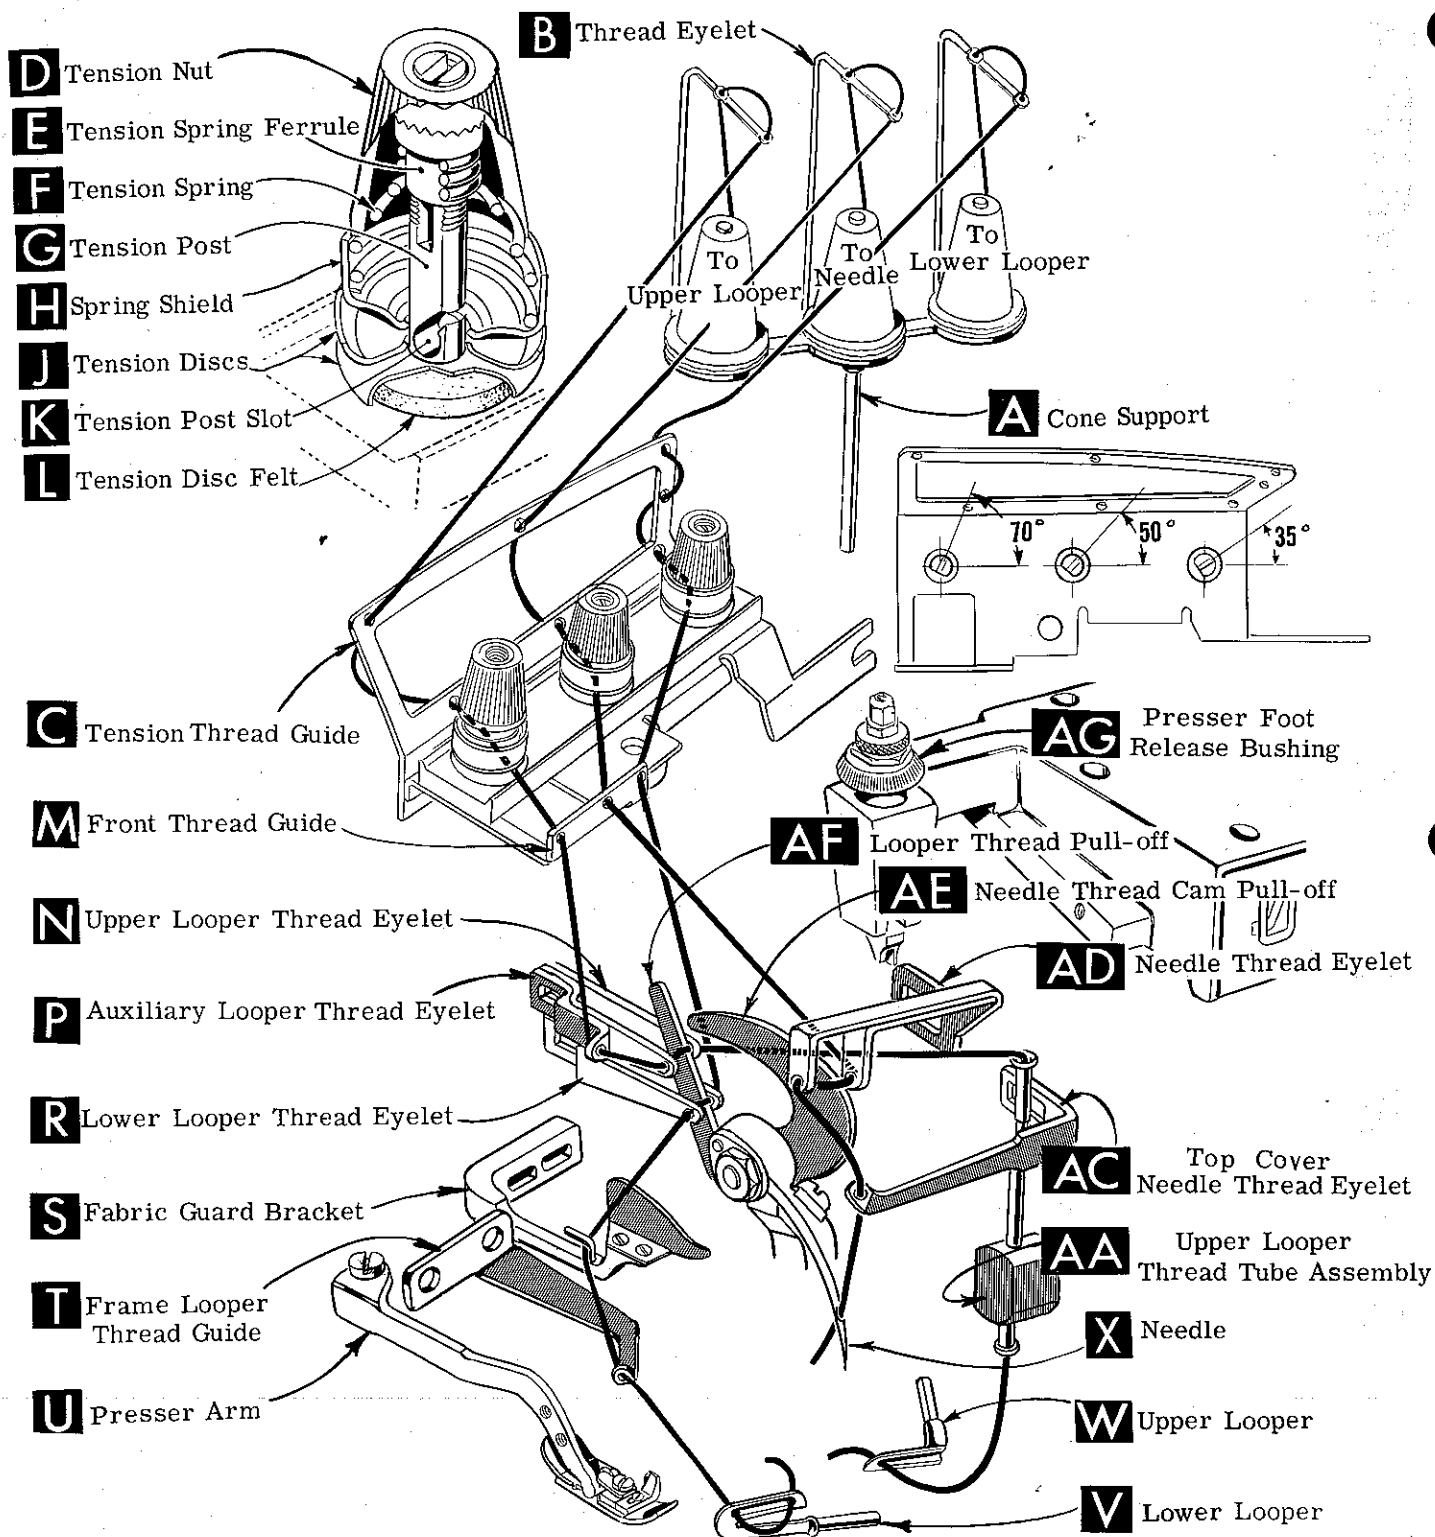

Fig. 1
Release pressure on presser foot by turning presser foot release bushing (AG, Fig. 1 or 1A) and swing presser arm (U) out of position. Turn handwheel in operating direction until needle is at its lowest point of travel. Using hexagonal socket wrench No. 21388 AU, furnished with machine, loosen needle clamp nut about 1/4 turn. Again turn handwheel until needle is at high position. Withdraw needle.
After thread comes from cones on cone support (A, Fig. 1 or 1A) it is brought up through the back hole of thread eyelet (B), then down through the front hole of thread eyelet. Next it is threaded through the upper hole of tension thread guide (C) from front to back and then through the lower hole from back to front.
Only parts involved in threading are shown in threading diagram (Fig. 1 and 1A). Parts are placed in their relative positions for clarity.
Be sure the threads, as they come from the tension thread guide (C) are between tension discs (J) and in tension post slot (K) in tension post (G). The tension posts should be positioned so the tension post slot will be at the approximate angle for the different threads as indicated in Fig. 1 and 1A.
Thread lower looper thread through right eyelet of front thread guide (M). Then double end of thread and lead it through both eyes of lower looper thread eyelet (R, Fig. 1) from right to left. Note: thread must pass in front of looper thread pull-off (AF). Lead thread behind fabric guard (S) and through eyelet hole of frame looper thread guide (T). Turn handwheel in operating direction until heel of lower looper (V) is all the way to the left; then thread through both eyes from left to right. Left eye of lower looper can be threaded easily if tweezers are in left hand.
Thread upper looper thread through left eyelet of front thread guide (M, Fig. 1 or 1A). Turn handwheel until point of upper looper (W) is all the way left. Lead
Thread needle thread through middle eyelet of front thread guide (M). Then turn handwheel in operating direction until needle (X, Fig. 1) is at its highest position. Insert needle thread from right to left, through both eyes of needle thread eyelet (AD), under neck of top cover casting; then down through hole in top cover needle thread eyelet (AC). Thread needle from front.
The amount of tension on needle and looper threads is regulated by the tension nuts (D, Fig. 1 and 1A). Tension on threads should be only enough to secure proper stitch formation.
Be sure machine is threaded according to threading diagram (Fig. 1).